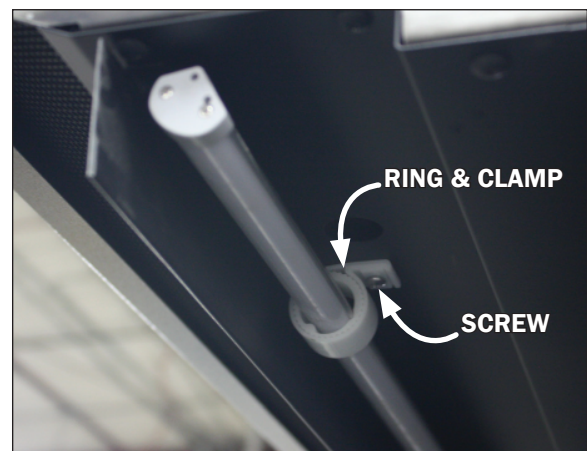

Fig. 7 LED light & ring/clamp
2. Remove the screws from the light clamps (Fig. 7) while keeping ahold of the light. Once the screws are removed the light rod will come away from the case with the clamps still holding to the light.